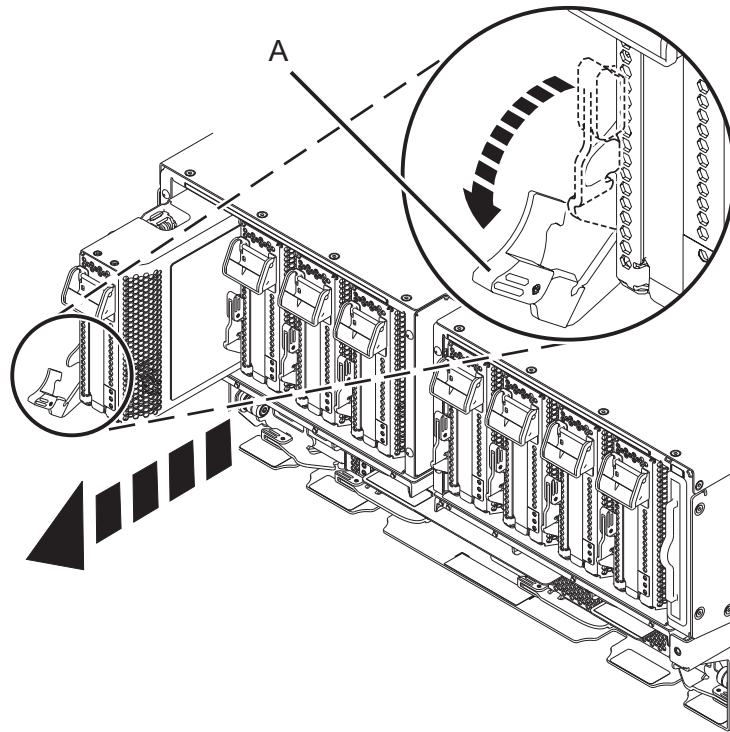

Figure 2. Removing a PCIe adapter cassette from the system
- b. Rotate the terracotta cassette handle (**A**) in the direction that is shown in Figure 2 and then press down on the handle (**A**) to disengage the cassette from the slot connectors.